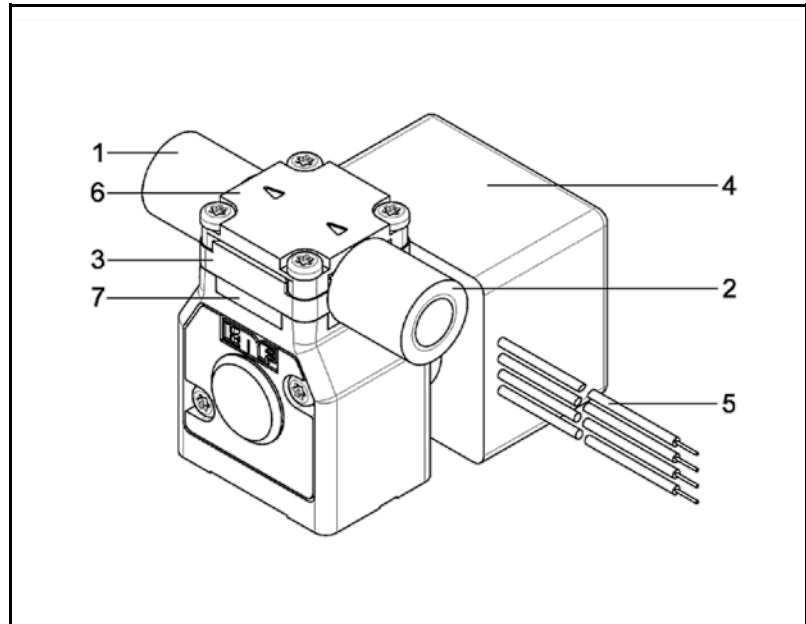

Fig. 1: diaphragm liquid pump NF1.5
* The pump head (Fig. 1) comprises an intermediate plate and a connecting plate.